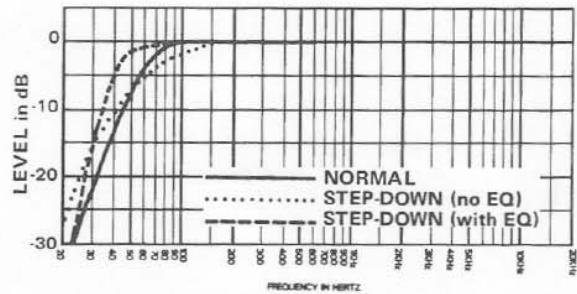

FIGURE 6
Figure 6 shows small-signal total acoustic power output versus frequency for the TL606/EVM-15L, Pro-Line. In addition, Figure 7 shows the maximum acoustic power output versus frequency. The maximum output is limited by either (1) the thermal power handling capacity of the speaker, or (2) the speaker's maximum linear cone excursion capabilities, whichever occurs first. Note that some 2 to 3 dB of maximum output in the 60 to 90 Hz range is sacrificed when the step-down mode is used.